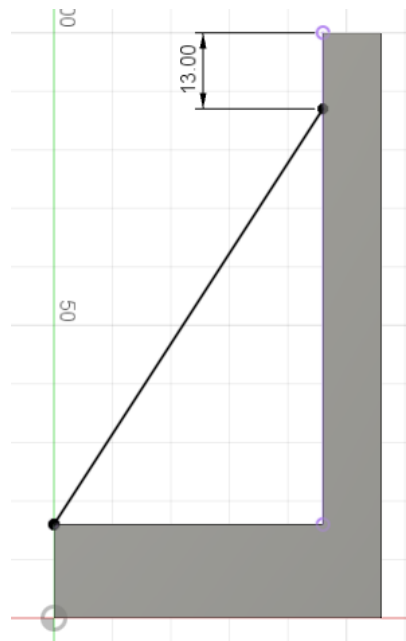

Fig. 6: Rib design
8. Select "Line"  and draw a line as shown in the Fig 6. Please make sure the tip of line coincide with the body of base using "coincident" tool.